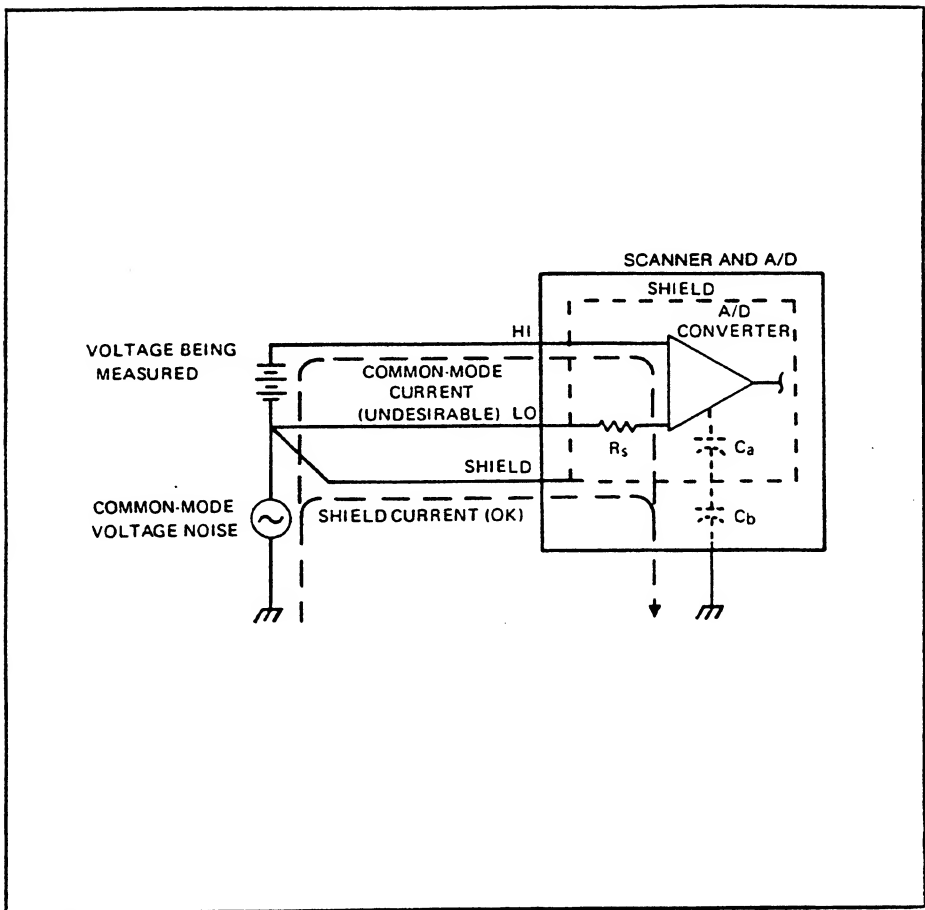

Figure 176-2. Shield Connection for Optimum Common Mode Rejection (-162/-161 Configuration)
2. If significant common mode voltage (greater than one volt) is present, connect SHIELD to LOW by means of a third wire at the measurement point. This arrangement is shown in Figure 176-2.